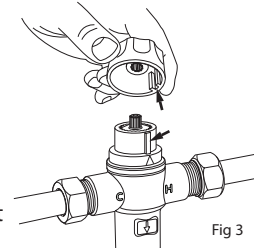

Fig 3
5. Once the correct temperature has been set refit the cap, ensuring it is secured through the slots on the locking ring so that the valve cannot be adjusted by the end user. (Fig 3)